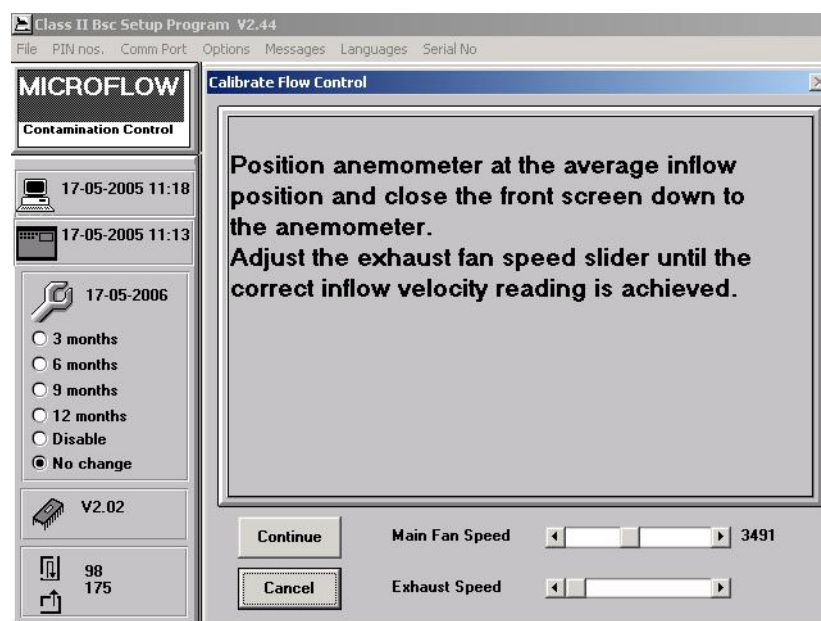

Figure 21 Low Inflow Alarm
- (i) A similar repetition for calibration of the inflow alarm can next be performed. The screen shown in figure 21 will be seen. NOTE do not follow the instructions on this screen, but follow the procedure given in 11.3.2